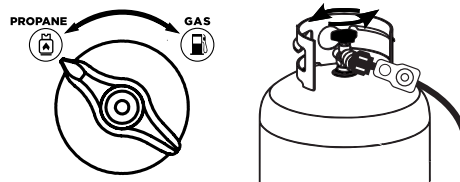

Figure 8: Turn fuel selector to PROPANE position
- b. Turn the fuel selector knob to **PROPANE** (see Figure 8).